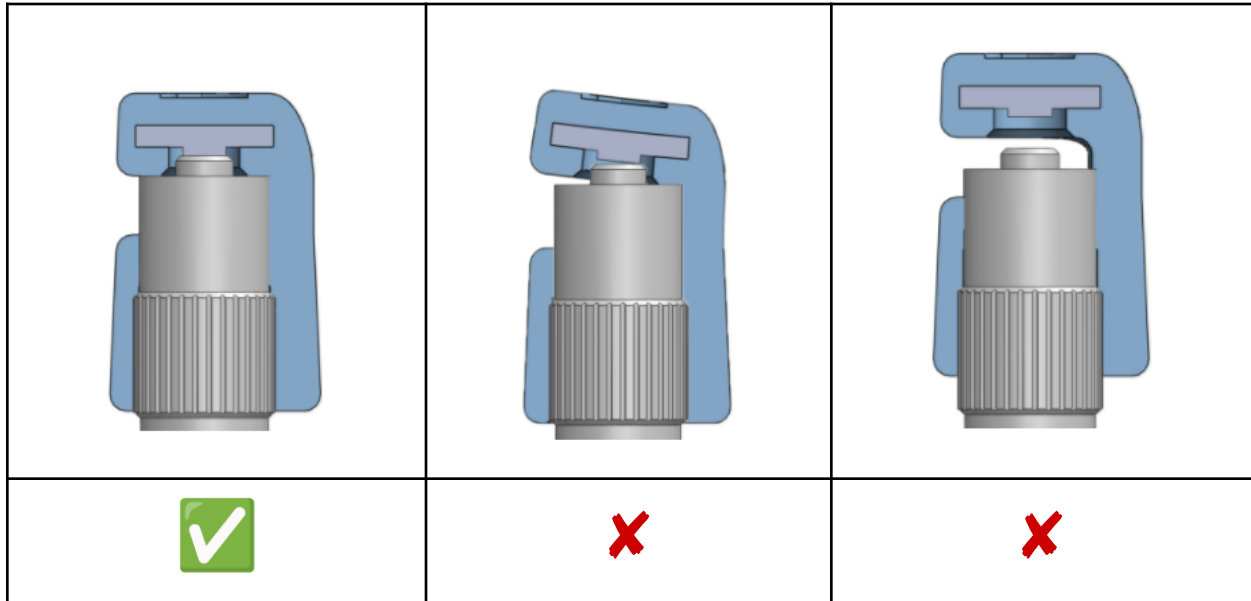

Figure 1: Proper positioning (left) and improper positioning (middle, right) of Sky Blue GloShield® -- REF 16-3001
4. Ensure GloShield® is positioned flush with the cable adapter such that the tip of the cable is covered (Figures 1 & 2).
9. Upon scope disconnection, verify light cable is covered (Figures 1 & 2).